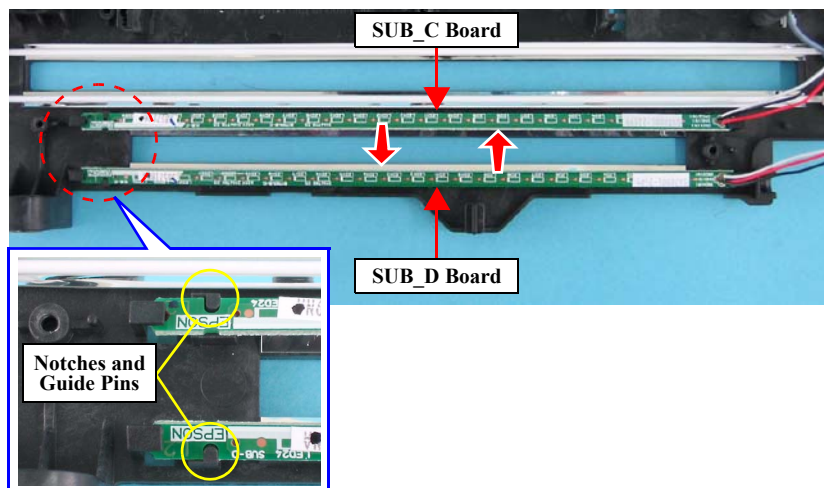

Figure 4-50. Removing the SUB_C Board and SUB_D Board
- When installing the SUB_C Board and SUB_D Board, match the notches and guide pins as shown in Figure 4-50.